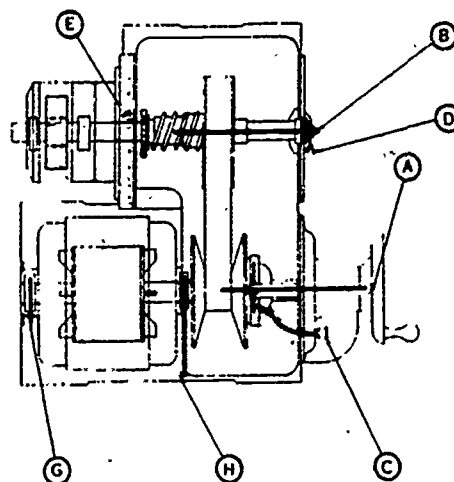

Figure 2. V-Belt Type Variable Drive
A variable speed drive is used so that the operator can adjust the speed of the drive shaft to that of the rate of flow of the liquid being pumped. A variable speed is shown in figure 2.
4. Lubricate Drive. Make sure to apply lubricant at all six (6) force-feed fittings (figure 2, A, B, C, D, E, G, and H), and the one cup type fitting (C); use BR grease.